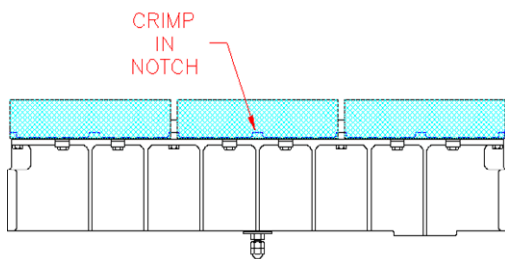

FIGURE 3
8. Slide new outerguard screens in place and lock in position by crimping in notched openings as shown in Fig. 3. Tap clips against outerguard screens with hammer.